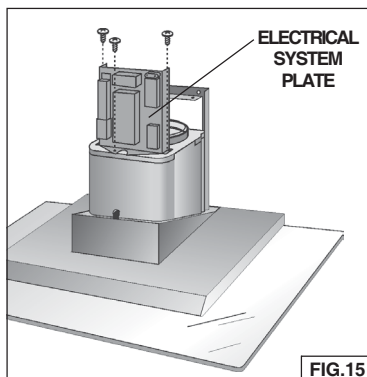

FIG. 15
4. Mount the electrical system plate attaching it with (3) 3.9x9.5 mounting screws. Fig. 15.